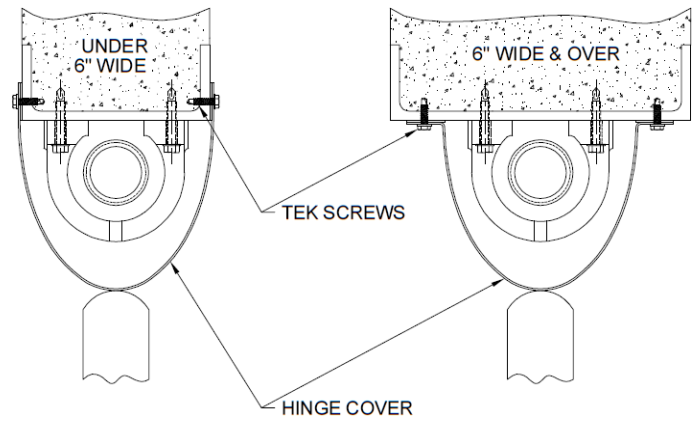

FIG. 5
- a. Ensure Position of the hinge cover is touching the door frame (Figure 5).